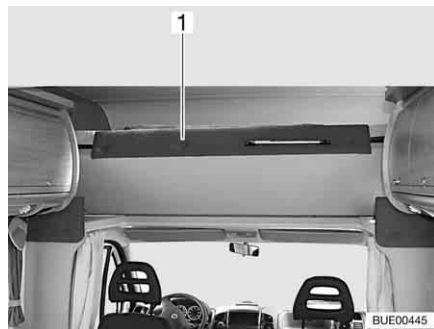

Fig. 101 Overcab bed, folded upwards
- Fold the front of the overcab bed (Fig. 101,1) upwards. The overcab bed is kept in the upper position by gas-pressure springs.